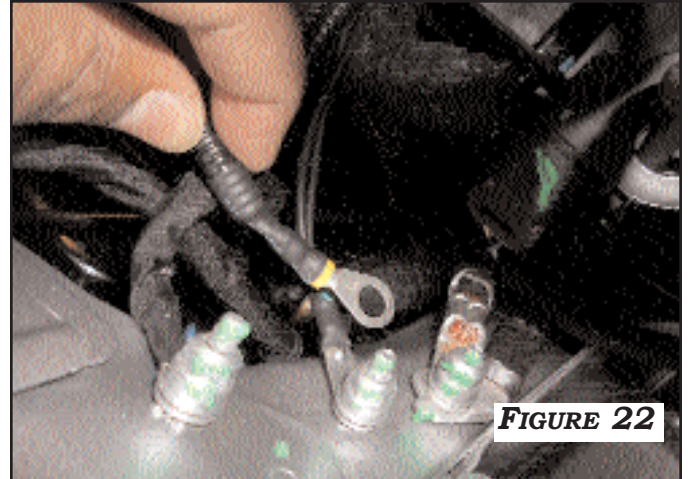

FIGURE 22
7. REMOVE THE 10MM NUT AT THE MIDDLE GROUND LUG NEAR THE BACK OF THE LEFT HEADLIGHT HOUSING. INSTALL THE DRL GROUND TERMINAL RING ON THE LUG, REPLACE THE NUT. **FIGURE 22**